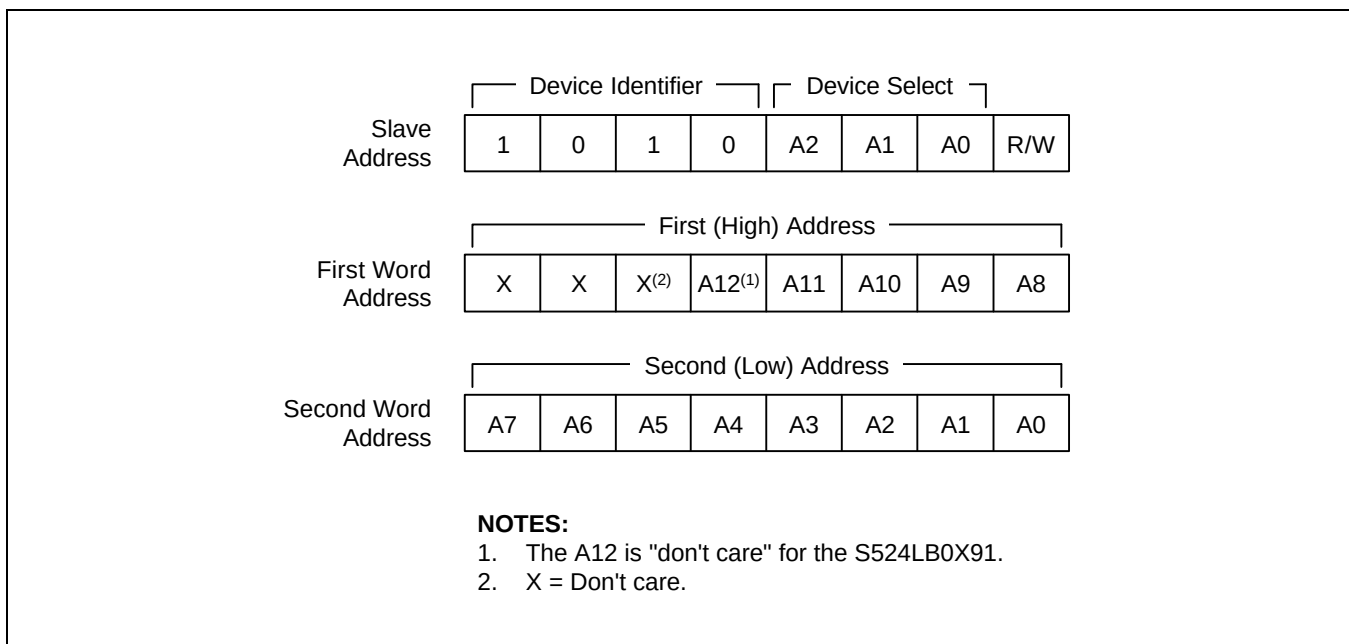

Figure 7-9. Device Address
- **Slave Address:** After the master initiates a start condition, it must output the address of the device to be accessed. The most significant four bits of the slave address are called the "device identifier." The identifier for the S524LB0D91/B0DB1 is "1010B". The next three bits comprise the address of a specific device. The device address is defined by the state of the A0, A1, and A2 pins. Using this addressing scheme, you can cascade up to eight S524LB0D91/B0DB1s on the bus (see Figure 7-9 below).